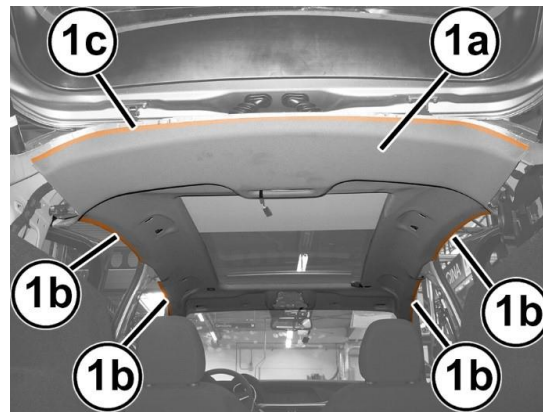

Figure 23 – Roof Lining Weather Strips
52. Release the roof lining (1a) from the weather strips (1b) of the door frames and from the weather strips (1c) of the tailgate frame, then lower it inside the vehicle (Figure 23).
10. Install the roof lining, then engage it in the weather strips of the door frame and in the weather strip of the tailgate frame (Figure 23).